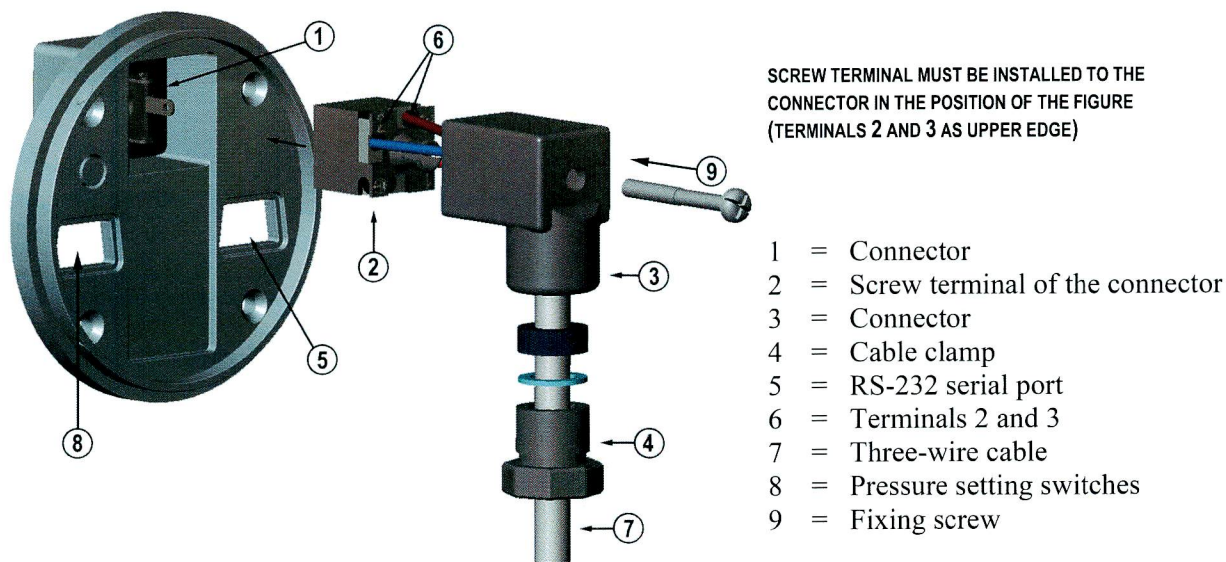

Figure 3 Wiring and Installation of Connector
For achieving the most accurate measurements in pressurized processes, set the process pressure to DMT242 according to Figure 1 by using the pressure switches (see Figure 3, item 8). As shipped from factory, the pressure switch setting is 1 bar, as in switch number 4 in the ON position.
5. Insert the wired screw terminal back into the connector exactly in the position indicated in Figure 3. Push the fixing screw through the connector. Fasten the cable clamp. Insert the wired connector into the counter connector.
NOTE The connection is incompatible if the positioning of the screw terminal is NOT as indicated in Figure 3. Fasten the fixing screw.